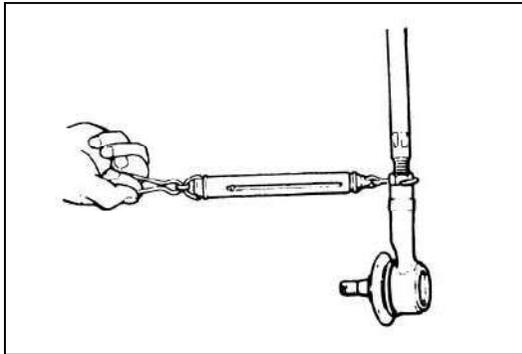

Fig.17-20
- 2) With the tie rod end downwards as shown fig 17-20,use a spring scale to measure swing resistance